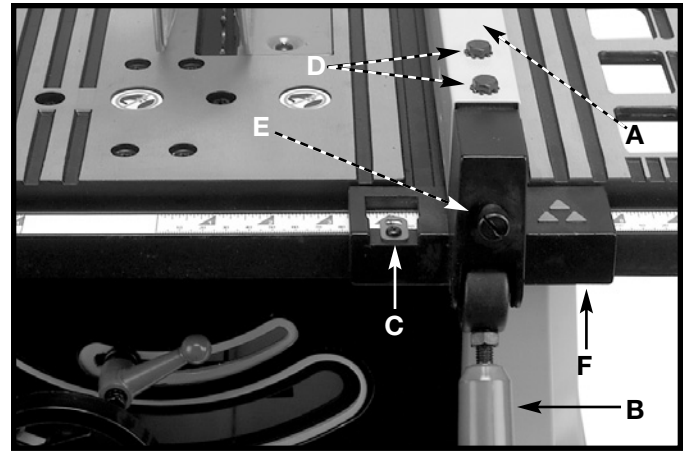

Fig. 33
1. To move the rip fence (A) Fig. 33 along the table, lift up the fence locking lever (B), slide the fence to the desired location on the table, and push down the fence locking lever (B).
4. Position the fence next to the miter gauge slot (Fig. 33). Clamp the fence to the table by pushing the locking lever (B) down. The edge of the fence should be parallel to the miter gauge slot.
6. If an adjustment is necessary, loosen the two screws (D) Fig. 33, and lift the locking lever (B). While holding the fence bracket (F) firmly toward the front of the saw, move the rear of the fence (A) until it is parallel with the miter gauge slot. Tighten two screws (D) and push locking lever down (B).
7. Adjust the clamping action of the fence (A) Fig. 33 by lifting the locking lever (B) and turning the screw (E) clockwise to increase, or counterclockwise to decrease the clamping action of the fence.